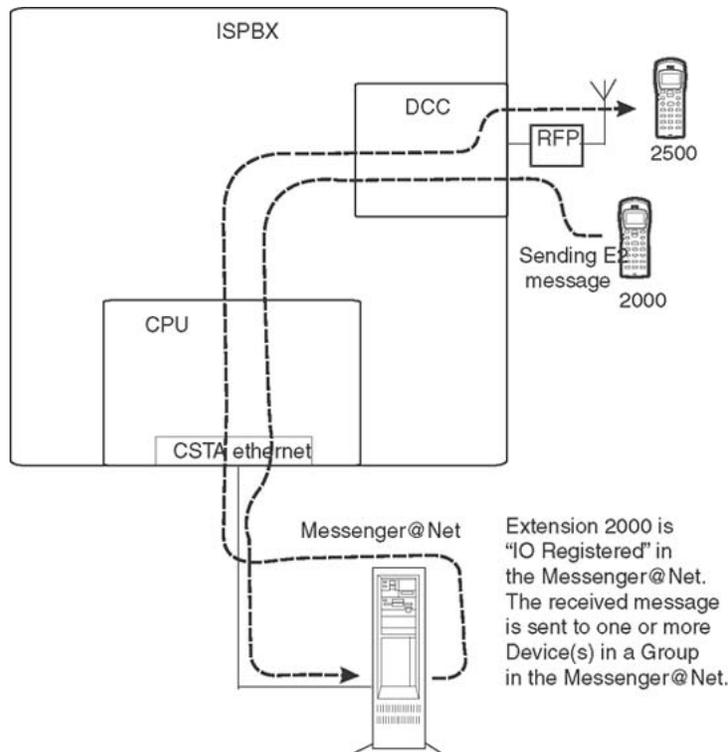

Figure 22: Incoming alarm (IA) in eDMSAPI
Figure 22: Incoming alarm \(IA\) in eDMSAPI on page 95 illustrates the handling of an incoming message (IA) in the eDMSAPI module, as follows: